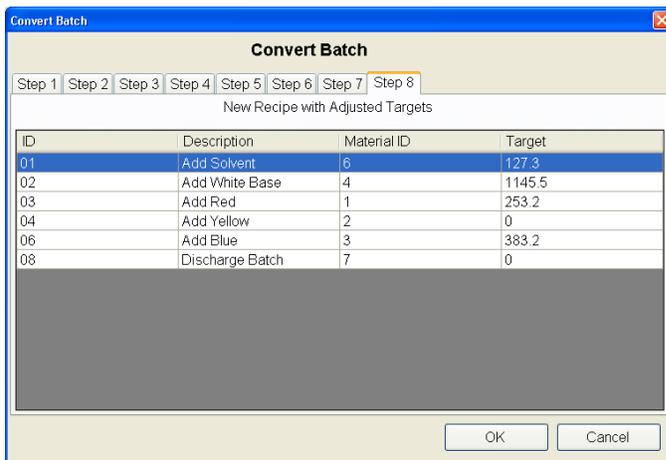

Figure 12-21: Recipe With Re-Scaled Target Values
7. The next screen (Figure 12-21) will show the re-scaled values in the recipe.